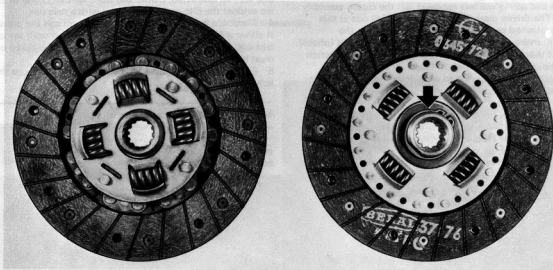

Fig. 5.6. Early and later type clutch discs (Sec 6)
- 6 To refit the clutch, place the clutch disc against the flywheel. Early clutch discs should be fitted with the *longer* side of the central boss towards the flywheel. Later clutch discs should be fitted with the *shorter* side of the central boss towards the flywheel. Later type clutch discs can be identified by the circlip (arrowed in Fig. 5.6) which